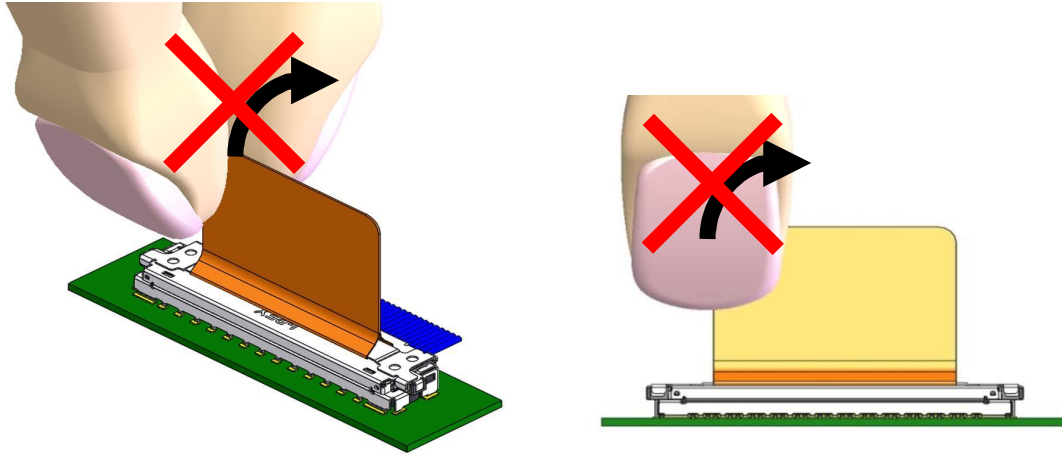

Fig.33 Do not pull one side of the PULL TAPE
- Do not pull one side of the PULL TAPE and rotate it while unmating. [Fig. 33]